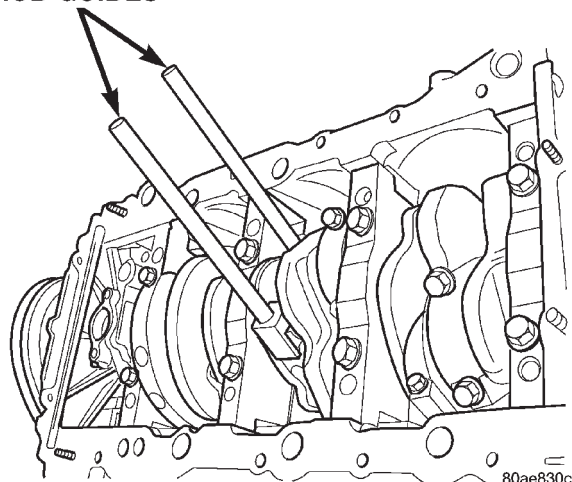

Fig. 79 Connecting Rod Guides
being removed (Fig. 79). Remove each piston and rod assembly out of cylinder bore.
(4) Position bearing onto connecting rod. Ensure that hole in bearing half is aligned to hole in connecting rod. Lubricate bearing surface with clean engine oil.
(5) Install Special Tools 8189 Connecting Rod Guides into connecting rod (Fig. 79).
(6) The pistons are marked on top with an arrow and with an "F" (Front) above the pin boss. These marks must be pointing toward the front of engine on both cylinder banks. The connecting rod oil squirt